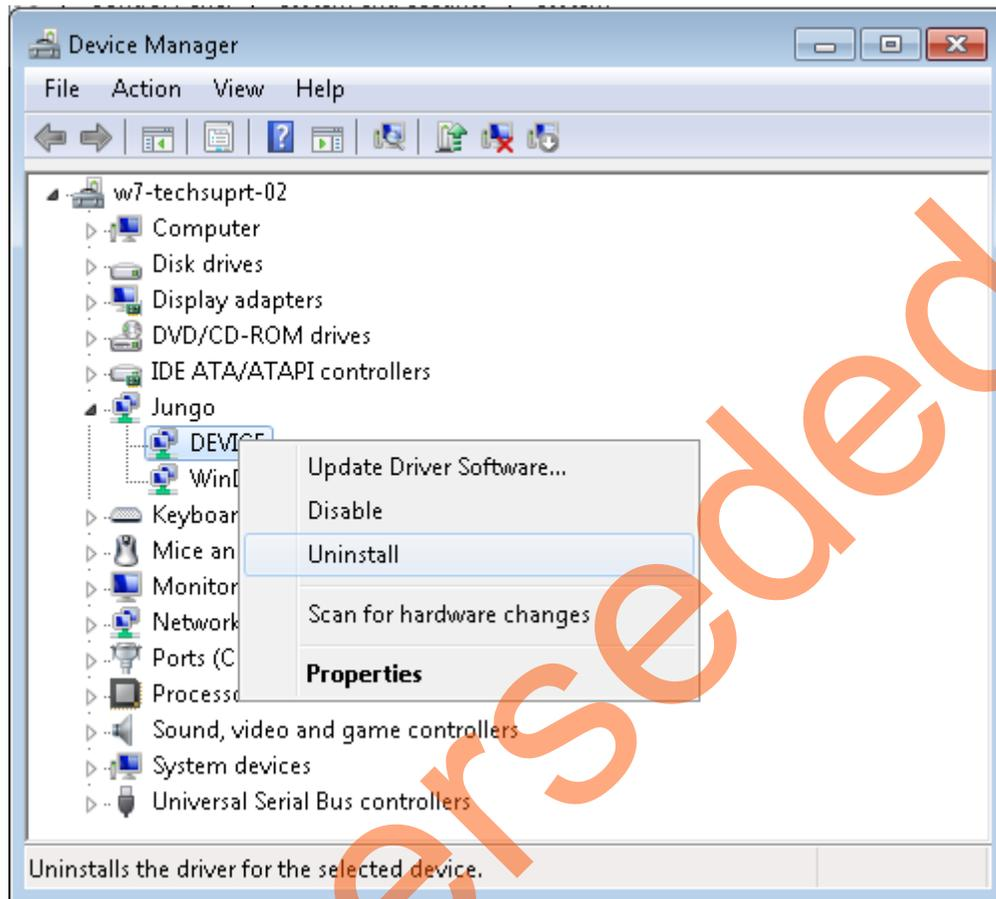

Figure 53 • Device Uninstall
- a. To uninstall the previous Jungo drivers, go to device manager and right-click on DEVICE as shown in Figure 53. The DEVICE uninstall window is displayed.